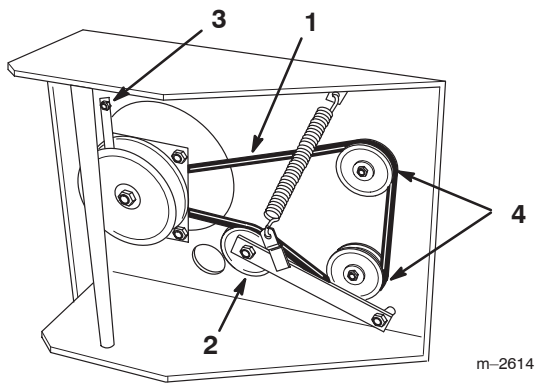

Figure 33
- Remove left front engine mounting bolt securing clutch retainer to frame (Figure 33). Unhook retainer from clutch and remove retainer.